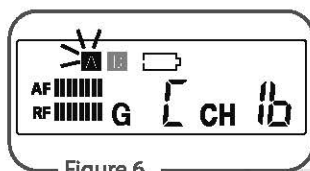

Figure 6
- (1) Antenna Status: the receiver will automatically select an antenna with stronger signal reception and highlight that antenna ④ (Figure 6)